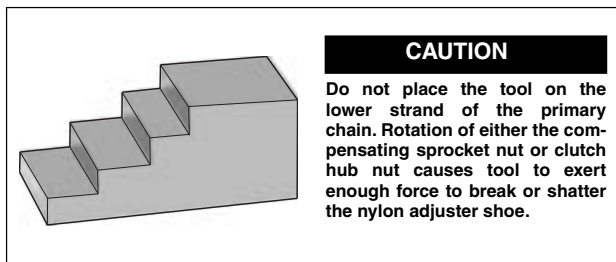

Figure 6-39. Primary Drive Locking Tool (Part No. HD-41214)
13. Obtain the PRIMARY DRIVE LOCKING TOOL (HD-41214). See Figure 6-39.